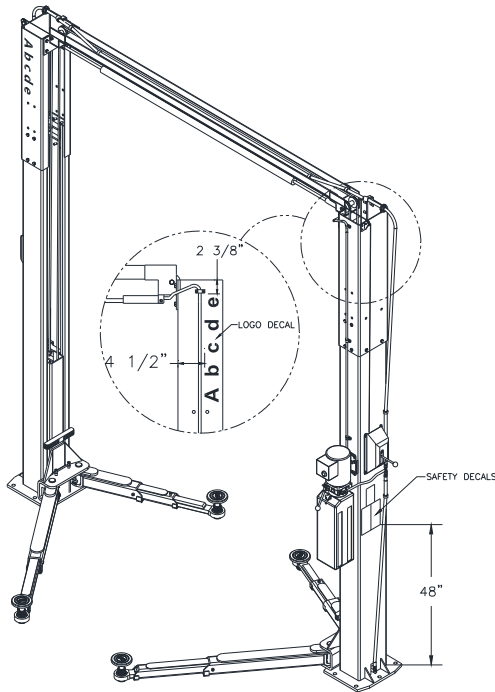

Fig 12 – Safety & Logo Decal Placement
- 1) Apply Logo Decals to each column extension and Safety Decals (Pg. 3) 48" above the base plate on the power column as described in Fig. 12 below.